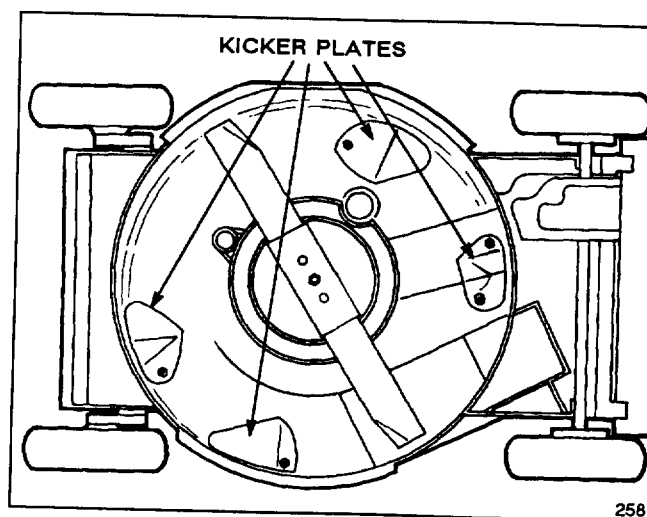

Figure 9
- B. Four special "kicker plates" positioned on the underside of the mower deck in strategic positions (Fig. 9)